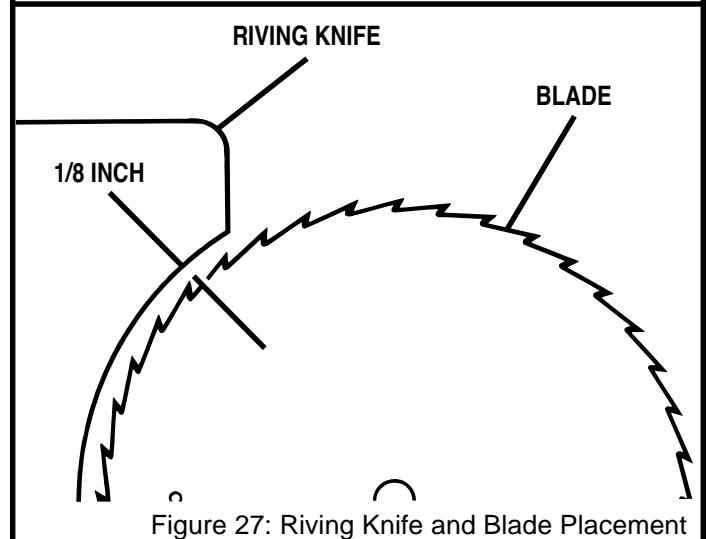
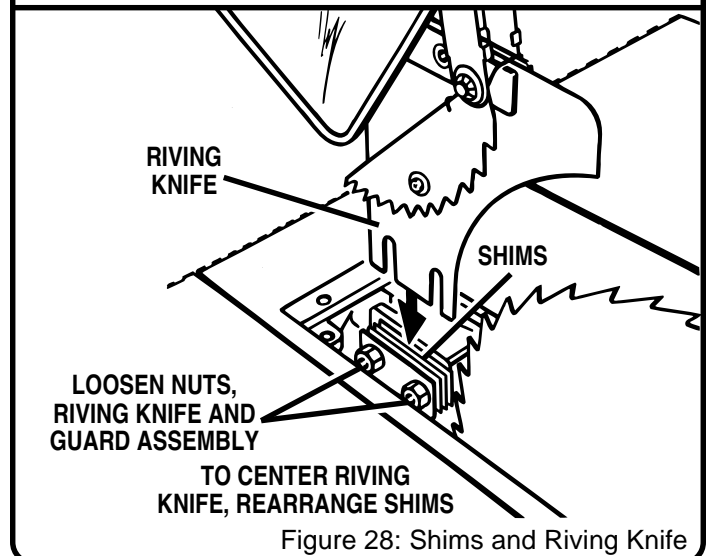

Figure 27: Riving Knife and Blade Placement
Figure 28: Shims and Riving Knife
1. With blade guard up, make sure the riving knife is placed at least 1/8 inch from the outer points of the blade. See *Figure 27*. Then make sure it is centered within the width of the blade. See *Figure 28*. If either placement is wrong, adjust with the following steps.